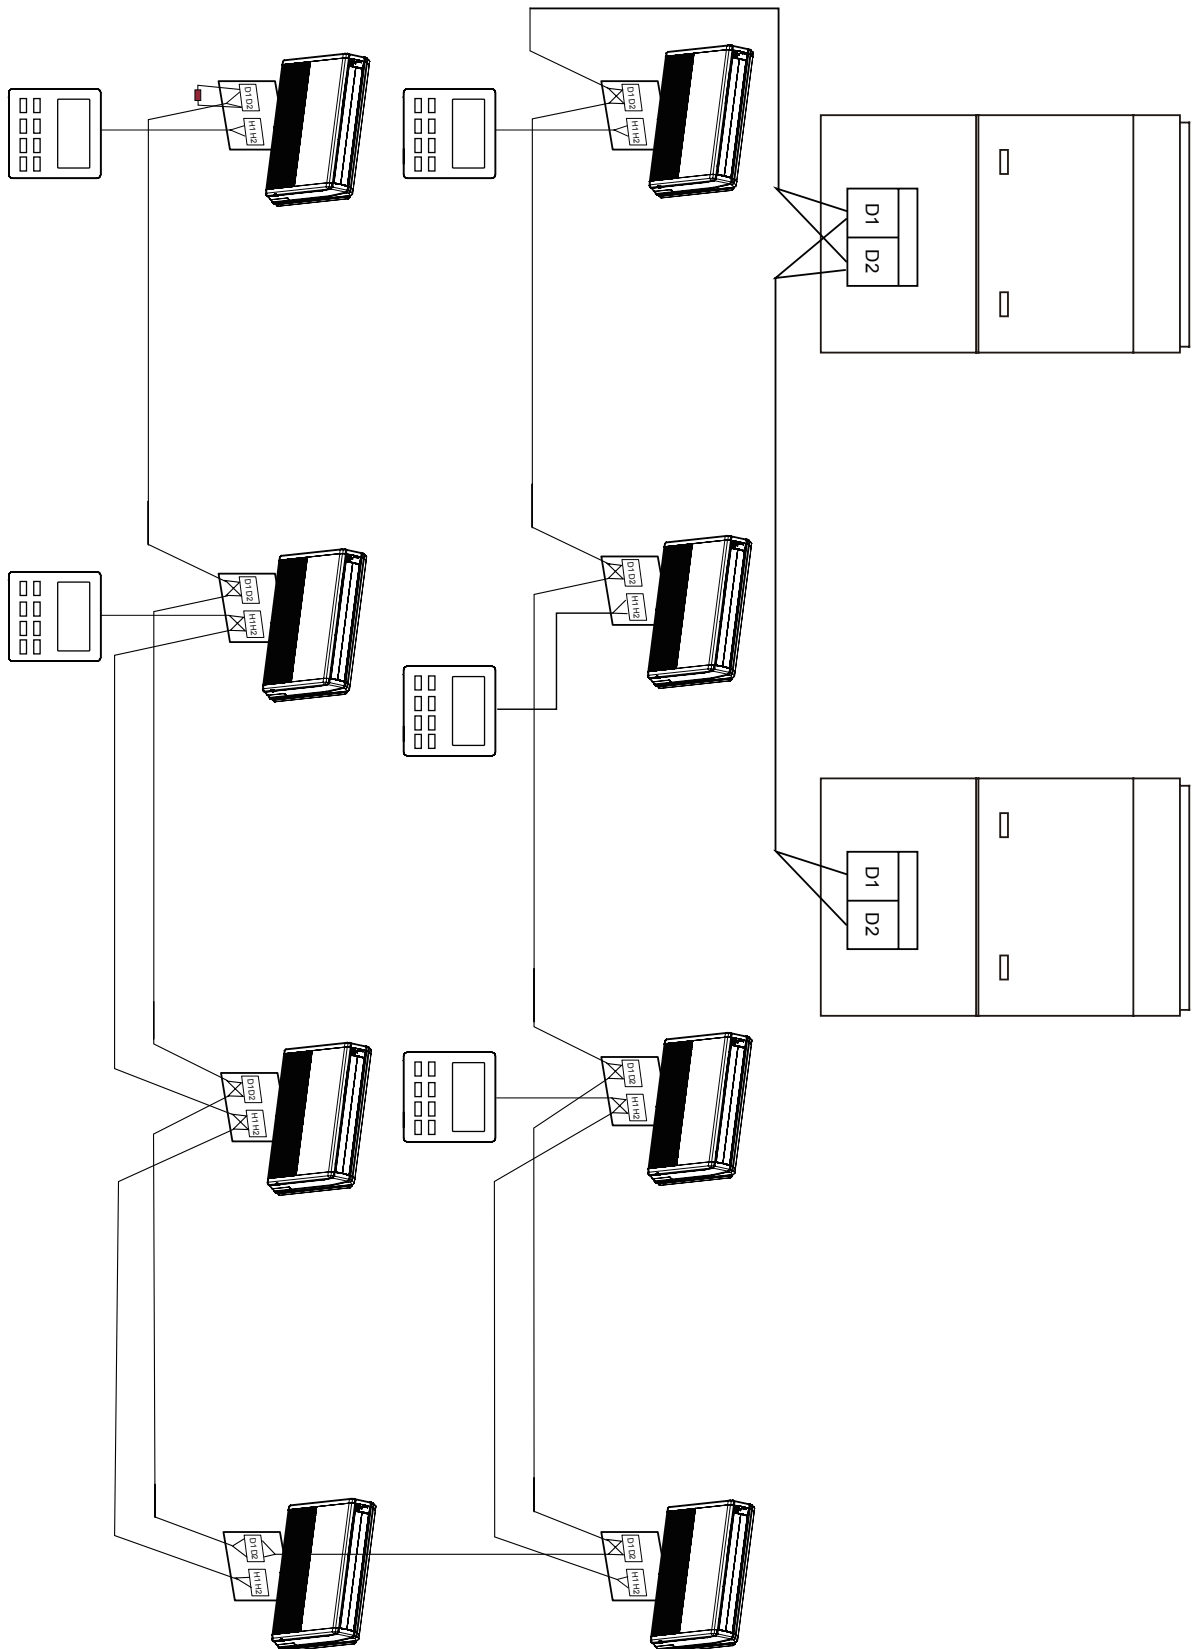

Fig 5.5
- (1) Communication wire of indoor unit and outdoor unit (or indoor unit) is connected to D1, D2.
- (2) Wired controller is connected to H1, H2.
- (3) One indoor unit can connect two wired controllers that must be set as master one and slave one.
- (4) One wired controller can control 16 indoor units in maximum at the same time. (as shown in Fig 5.5)